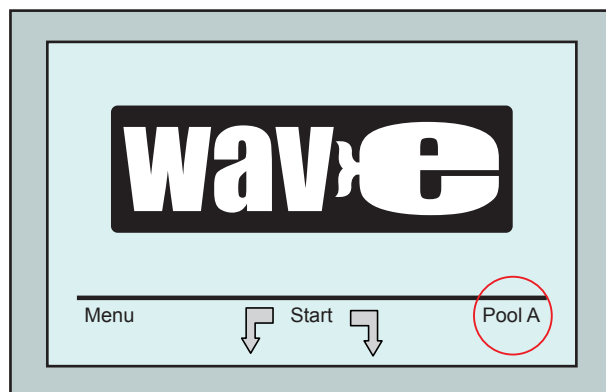

Figure 8: *Wave* screen showing **Pool A** as default setting
3. Switch on the power supply. The MMI's *Wave* screen (figure 8) opens in the home window.
1. Go to the *Wave* screen. "Pool A" is displayed as the currently defined setting as shown in Figure 8.
1. From the *Wave* screen, press the currently displayed pool setting at the right side of the screen (see Figure 8) to open the *Pool Profile* screen.